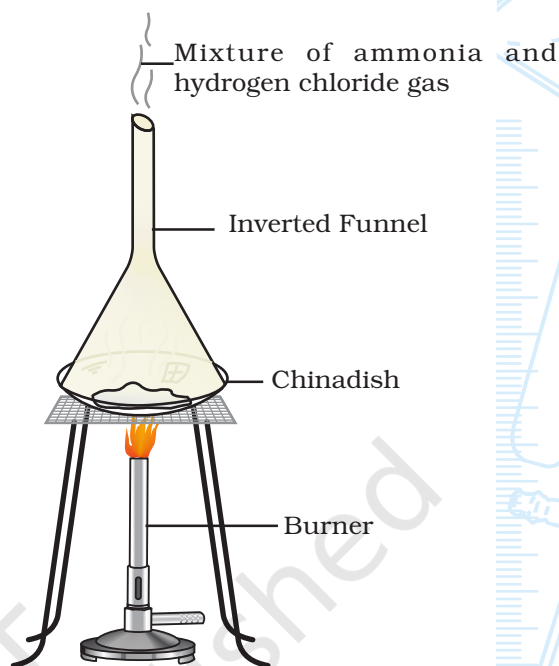

Fig. 2.2 : Heating of ammonium chloride in an open container
4. Heat the china dish containing the sample of ammonium chloride (Fig. 2.2).